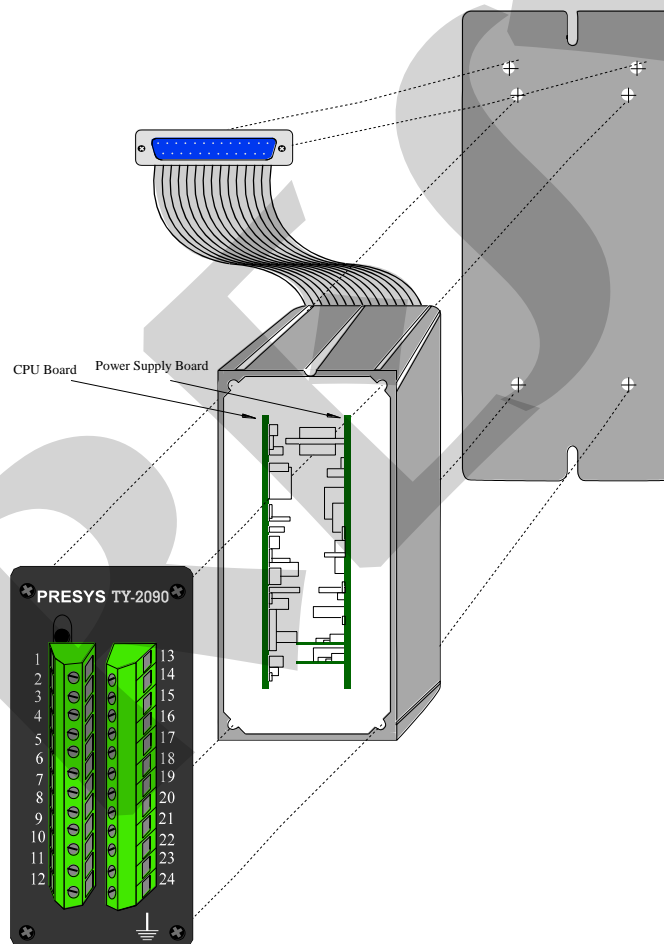

Fig. 20 - Transmitter Dismounting Scheme
- i) Remove all screws indicated by a dashed line according to figure 20 below, totaling 10 screws.